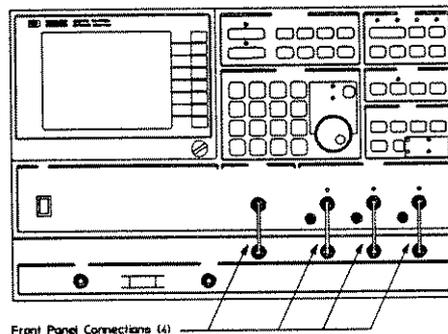

Figure 5-3 Front panel cable installation
3. Install the four N-connector 50 Ω cables between the front panels of the two instruments as shown in figure 5-3.